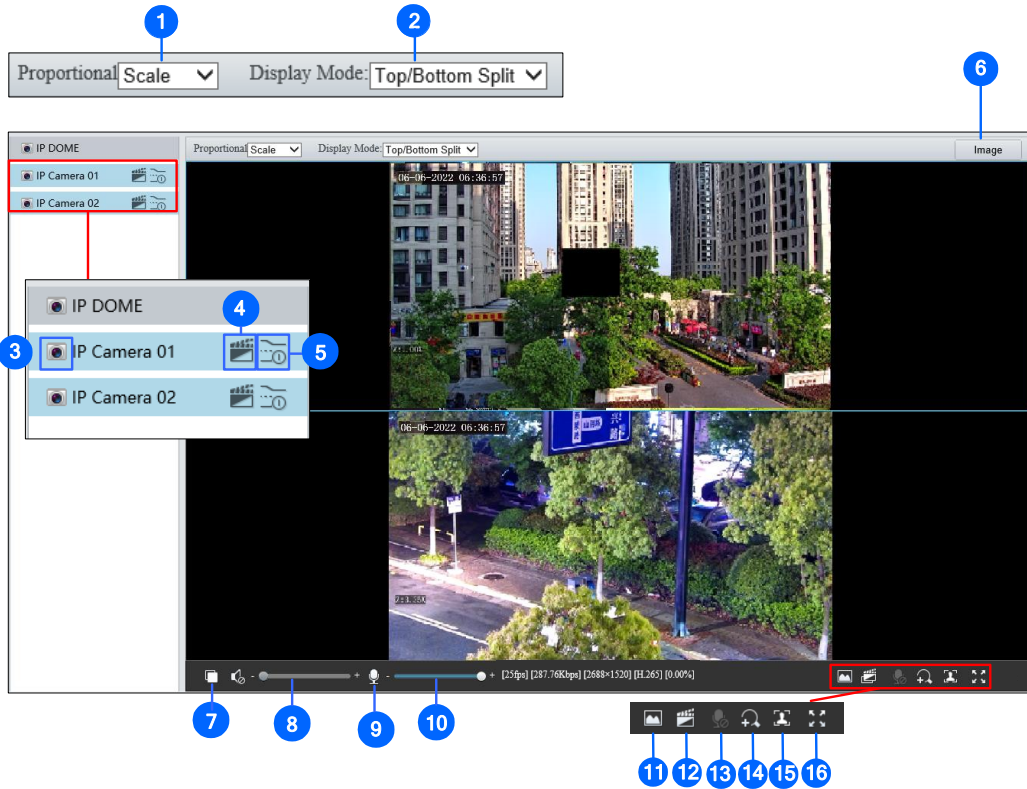
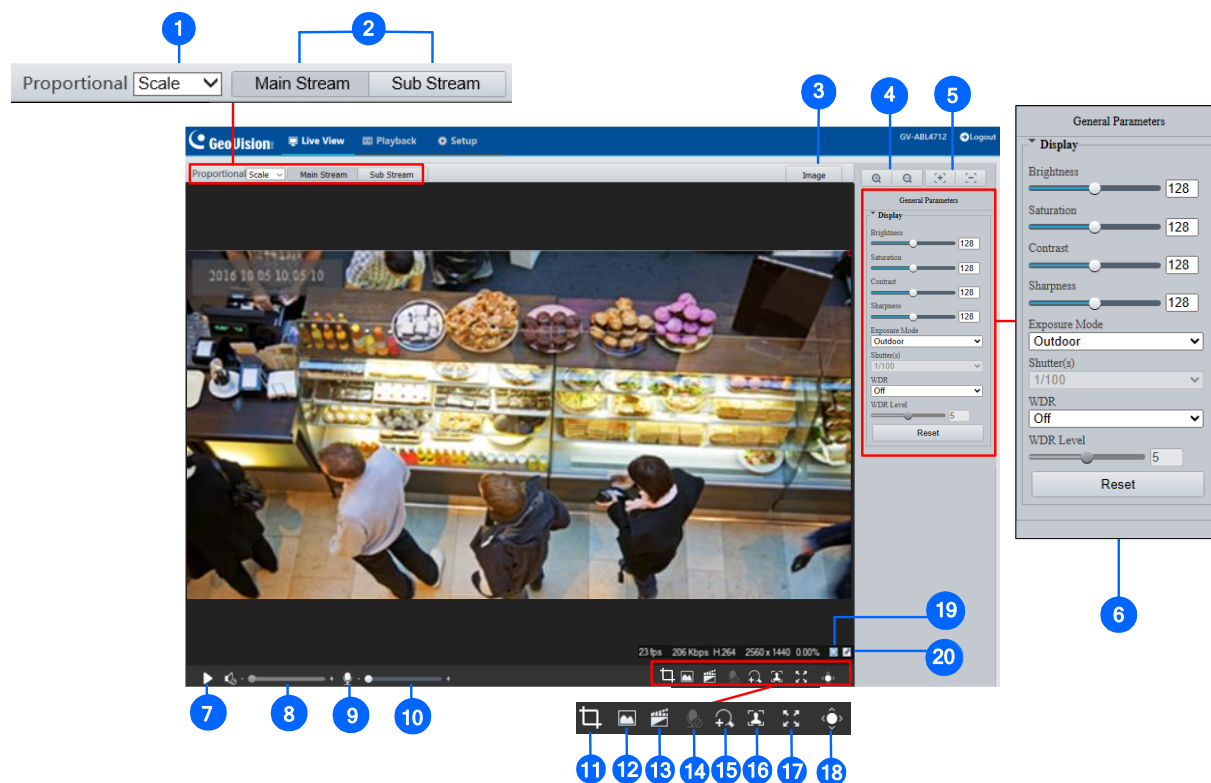

Figure 2-3
Figure 2-4
1. Click  (No. 14, Figure 2-3 / No. 15, Figure 2-4) on the toolbar.
4. To exit, click  (No. 14, Figure 2-3 / No. 15, Figure 2-4) on the toolbar.